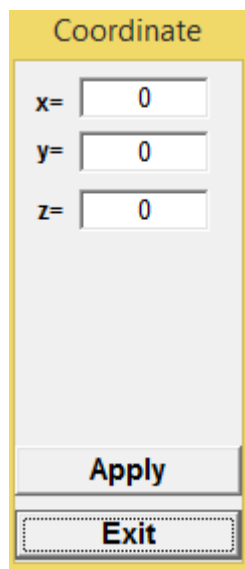

Figure 69
**Step 1:** Click button  Figure 69 will then appear.